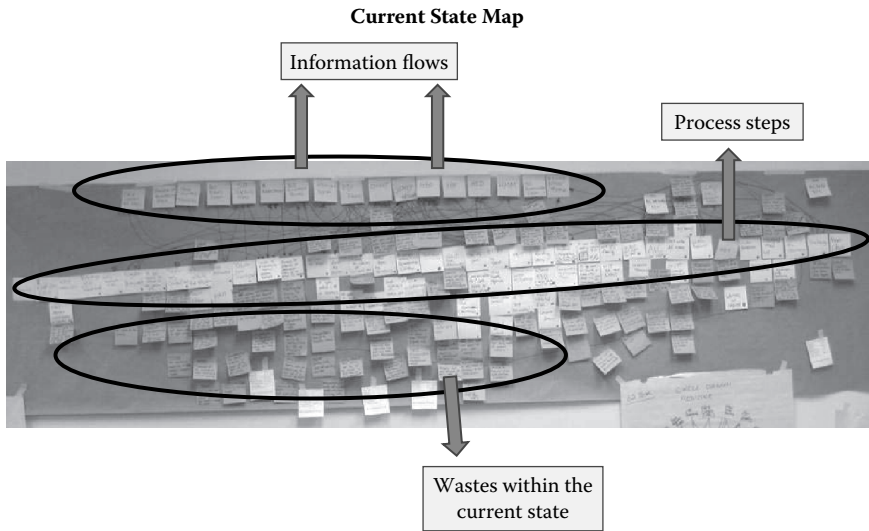

Figure 2.10 Sample current state map.
5. Process map the current process (the real "as is" process) (Figure 2.10).